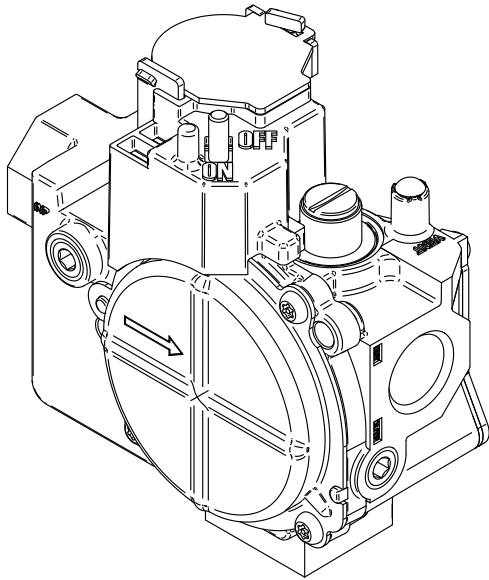

Fig. 40 – Gas Control Valve
- b. Remove manifold pressure tap plug from gas valve. (See Fig. 40.)